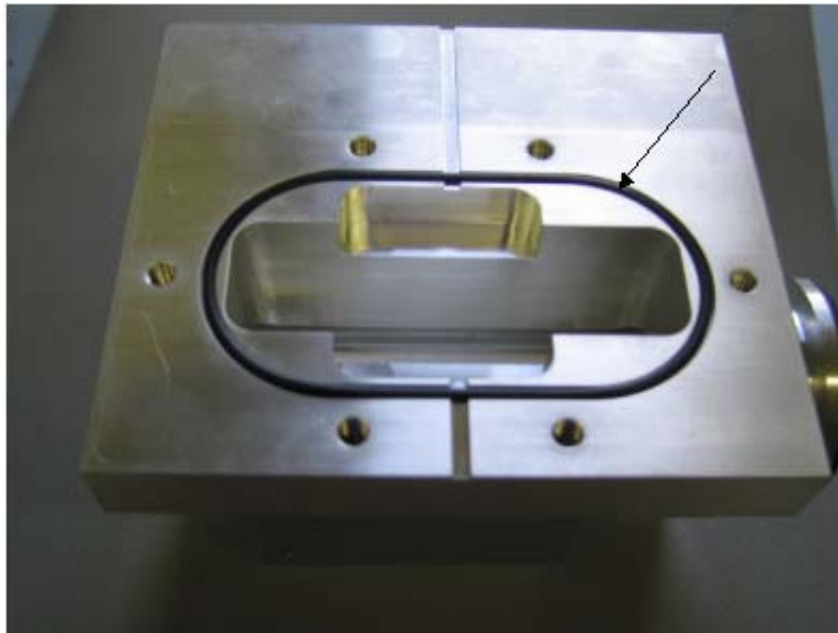

Figure B-81 O-ring
9. Remove the O-ring and discard (Figure B-81).